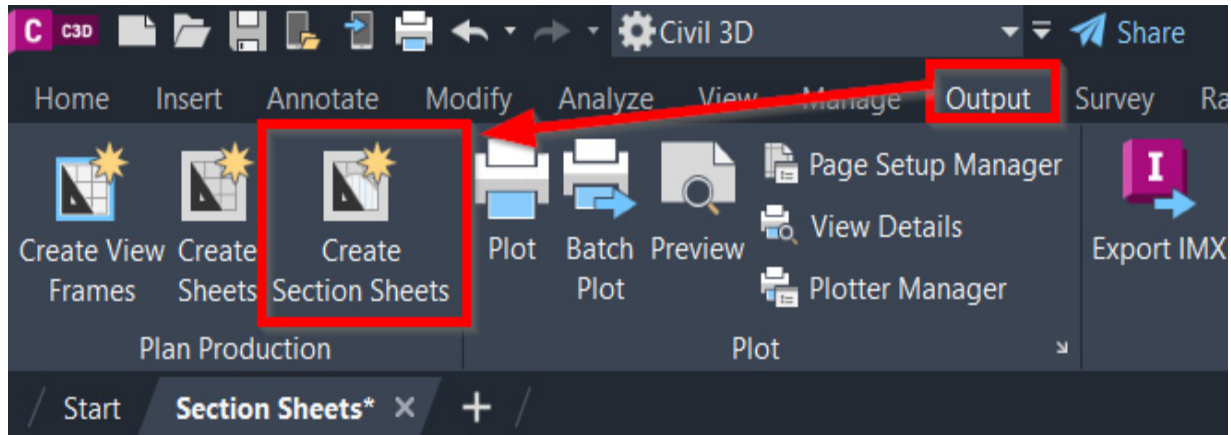

Figure 14.28 – Activating the Create Section Sheets tool
**Section Sheets** Tool within our **Plan Production** Panel, as shown in *Figure 14.28*.